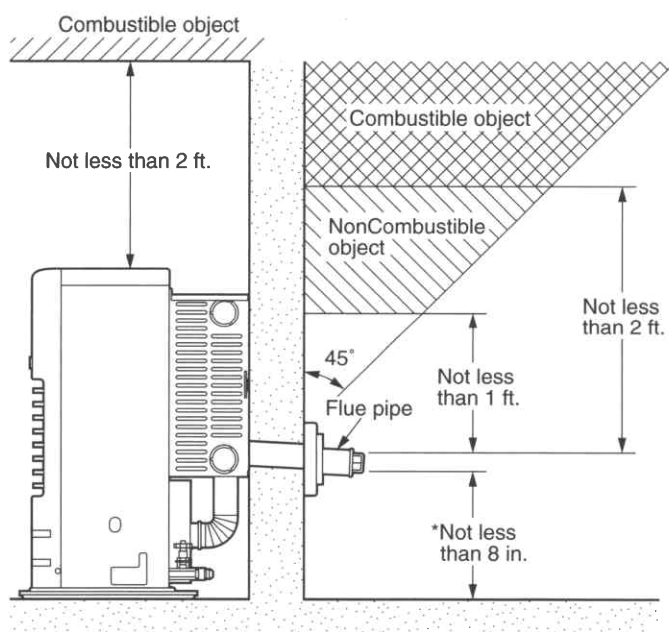

Fig. 2
2. Make sure that the outside area to where the standard flue pipe will reach is clear of any objects. (See Fig. 2 & 3)
CAUTION! The standard flue pipe installation, as shown in Fig. 2, is for wall thickness from 4 in. to 9 in. ONLY.